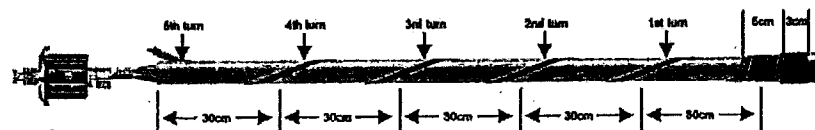

Figure 30.
10. Using the 30cm markings as a guide, continue to wrap the tape around the White XLPE Insulation in a coarse spiral, (5 Turns from the outer-Copper screen wires to crimp), with only slight tension, ensuring that the tape is not too loose. Note: The spiral needs to be applied with even pitch to achieve best performance. (Figure 30)